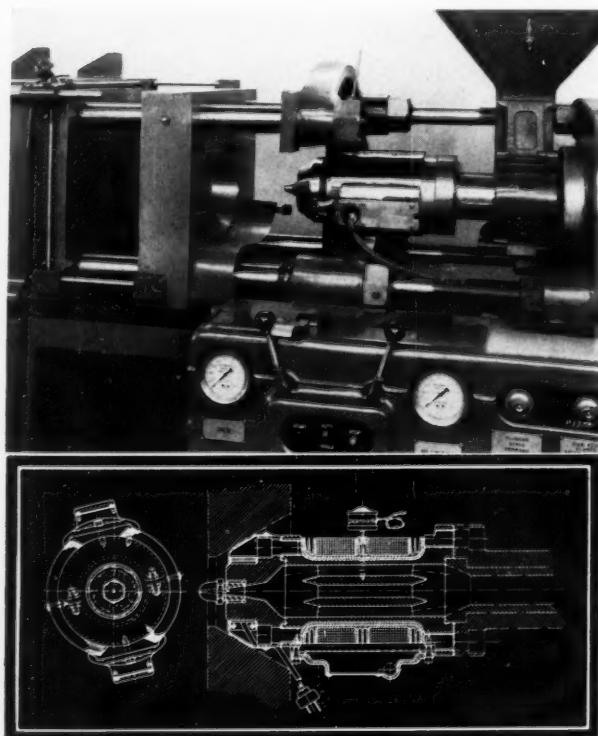

Fig. 1—Details of new system whereby cylinder of plastic molding machine is heated by induction
**U**NIFORM and rapid heating of the plastic material in the cylinder of an injection molding machine is of great importance in the successful production of plastic parts. The manner in which this problem has been met by the Reed-Prentice Corp. is shown by the photograph and diagram appearing herewith as *Fig. 1*.